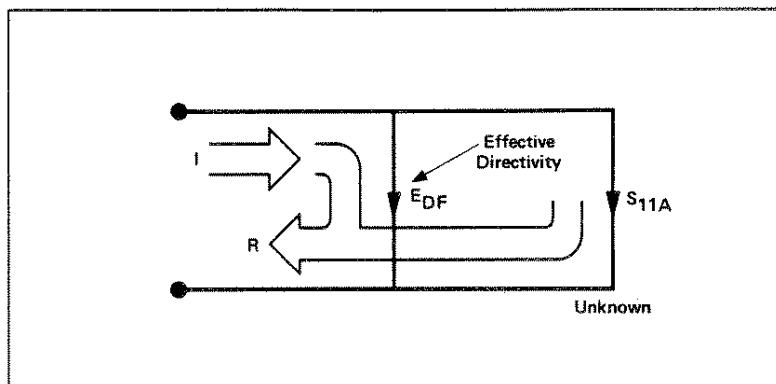

Figure 5-34
However, all of the incident signal does not always reach the unknown (see Figure 5-34). Some of (I) may appear at the measurement system input due to leakage through the test set or other signal separation device. Also, some of (I) may be reflected by imperfect adapters between signal separation and the measurement plane. The vector sum of the leakage and miscellaneous reflections is directivity, EDF . Understandably, the measurement is distorted when the directivity signal combines vectorially with the actual reflected signal from the unknown, S_{11A} .